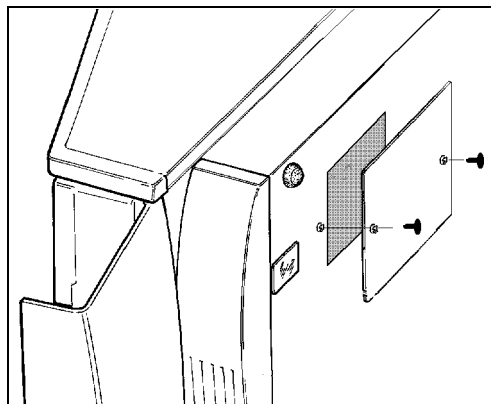

Figure 6-29. Removing the bottom access door
1. Turn the ProPalette unit on its side and remove the bottom access door (Figure 6-29).